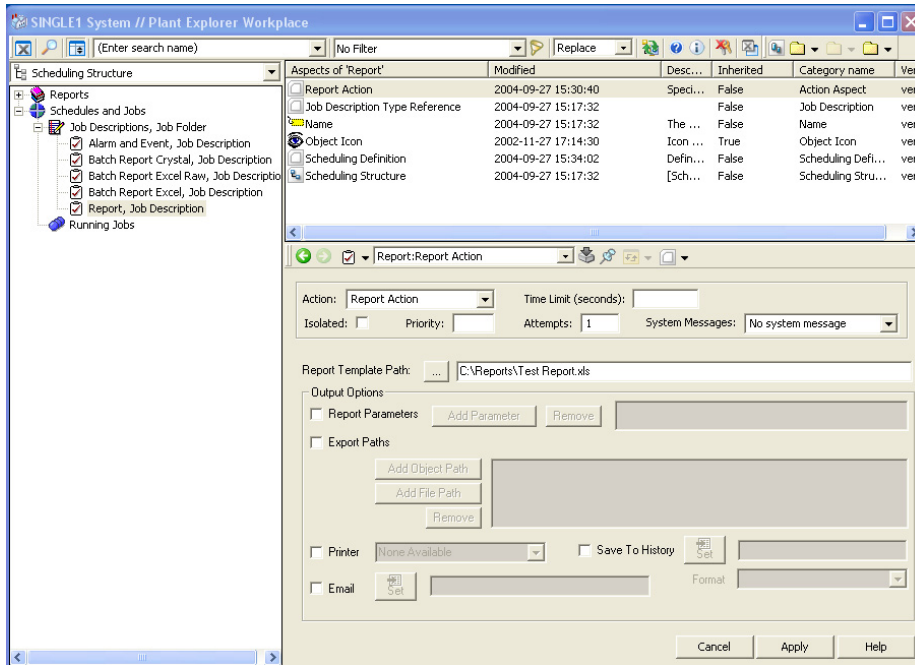

Figure 194. Report Action Aspect - Configuration View
4. Select **Report Action** in the **Action** drop-down menu. See Figure 194.